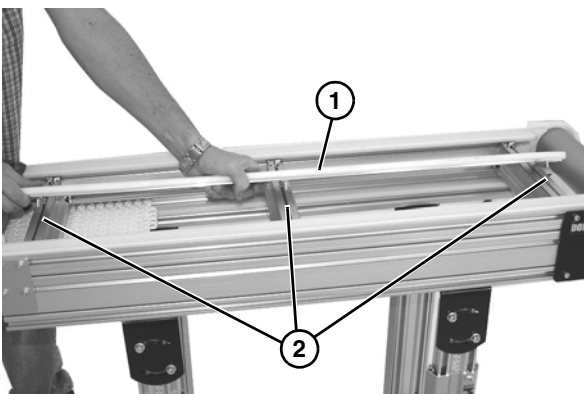

Figure 23
4. Remove center frame channel (**Figure 23, item 1**), making sure to keep each clamp matched with channel of each cross member (**Figure 23, item 2**).